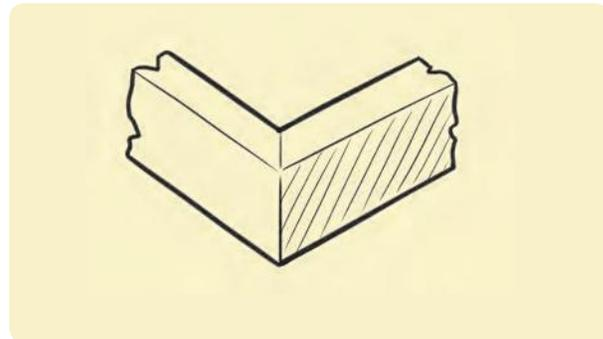
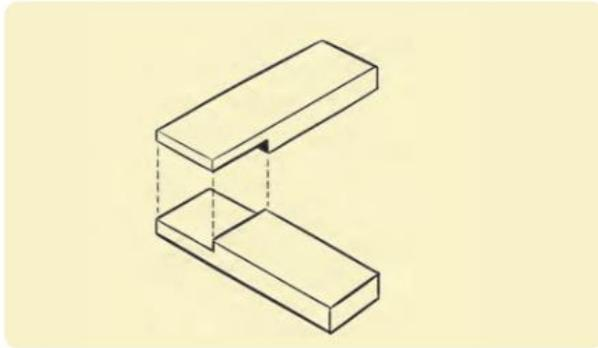

Figure 3.27 Mitre joint
Figure 3.30 Corner halving joint
However, in Year 7, we will look only at simple joints: box or angle and framing joints. Figures 3.27 to 3.29 show box or angle joints while Figures 3.30 and 3.31 show framing joints.
- 1 Look carefully at the mitre joint in Figure 3.27. You are going to cut two pieces of timber from your long piece of timber to make a mitre joint. First, mark somewhere on the timber a 45° mark on the face edge of the timber. Use a try-square to transfer the end marks of the 45° mark onto the two face sides of the timber.
- 2 Look back at the Figures 3.27 to 3.31. In groups of five, look around your workshop or classroom or other school area and look for places where a butt joint, rebate joint, corner halving joint or T-halving joint are used. Write down which of the joints above you think is the strongest and give reasons for your choice.